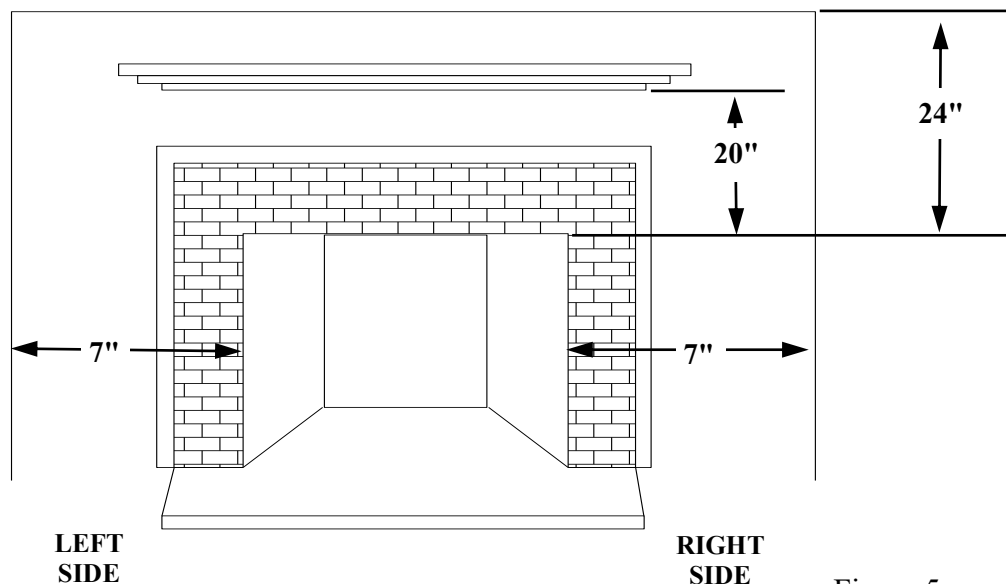

Figure 5
- (1) Model 34 Contemporary may be installed in a masonry fireplace. The **minimum fireplace dimension** must be 24" high, 29-1/2" wide, and 12" deep.
- (2) For minimum dimensions for the sidewall and mantel, see Figure 5.
- (3) Center heater in fireplace opening.